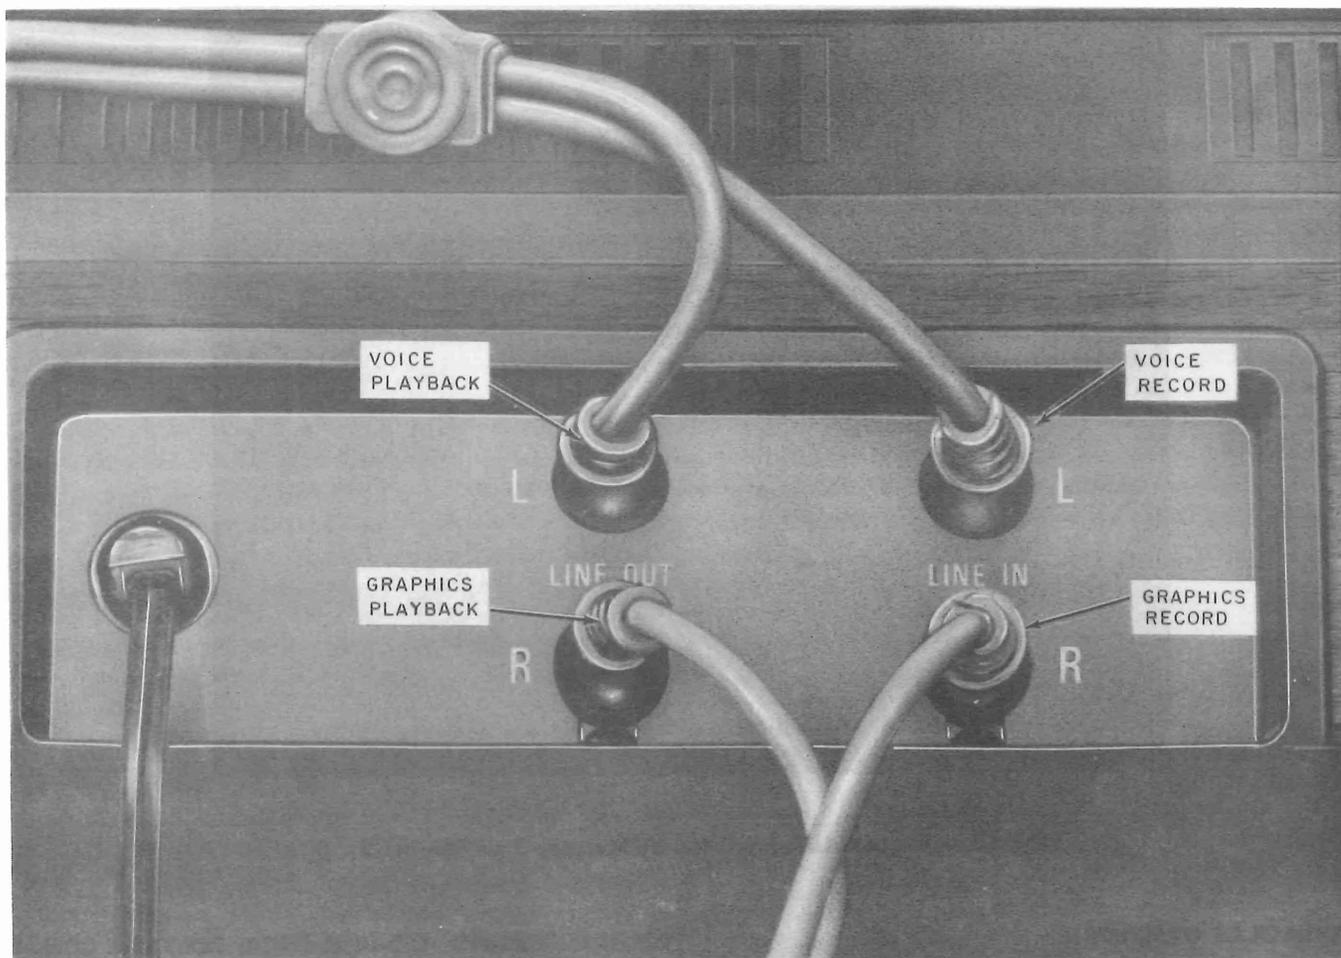
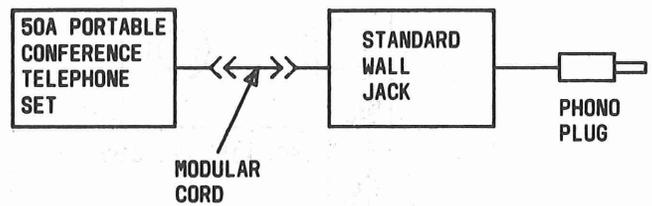

Fig. 58—Typical Stereo Tape Deck Connections
Fig. 60—Modular Conference Telephone Set Connections
7.07 Connect phonoplug-terminated cable from REC jack on transmitter-receiver (Fig. 3) to LINE IN R jack of tape recorder (Fig. 58). Connect phonoplug-terminated cable from transmitter-receiver PLAY jack (Fig. 3) to LINE OUT R on tape recorder (Fig. 58).
7.13 Connect a customer-provided cable with phonoplug on one end and bare wires on the other end from LINE IN L on the tape recorder (Fig. 58) to PA OUTPUT terminals on bottom of portable conference telephone set. Disconnect telephone plug from telephone jack. Depress microphone switch (green or gold) and use appropriate lavalier microphone for voice recording.
set, use a standard wall jack wired to a phonoplug as shown in Fig. 60. For playback, connect the phonoplug to the L LINE OUT terminal (Fig. 58) of the tape recorder. Turn the portable conference telephone set *on* with the MIKES OFF switch.
7.17 Recorded voice may also be played back to the remote location(s) by connecting the L LINE OUT terminal (Fig. 58) of the tape recorder to one of